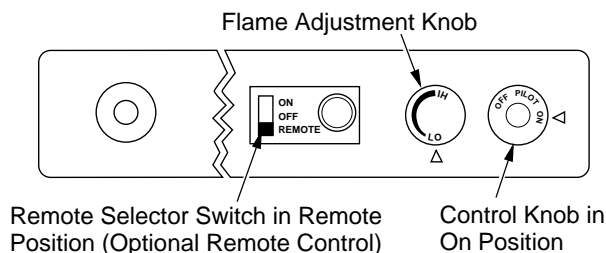

Figure 28 - Setting the Remote Selector Switch, Control Knob, and Flame Adjustment Knob for Remote Operation
1. After lighting, let pilot flame burn for about one minute. Turn control knob to ON position. Adjust flame adjustment knob anywhere between HI and LO. Slide the selector switch to the REMOTE position (see Figure 28, page 15). **Note:** The burner may light if hand-held remote was on when selector switch was last turned off. You can now turn the burner on and off with the hand-held remote control unit.